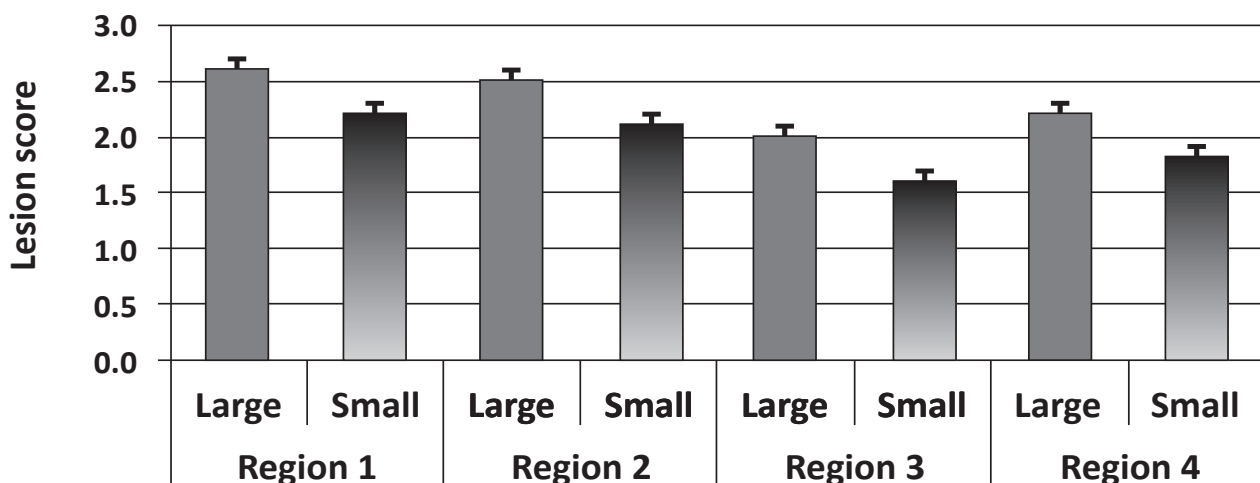

Figure 5.3: Lesion Score by Region. Region-1 Head and Jowl, Region-2 Shoulder, Region-3 Side & Loin, Region-4 Ham (Gesing et al., 2012)
- Figures 5.3, 5.4 and 5.5 below, show results from Iowa State University, Gesing et al., and Bates, comparing the performance of large pens (>200 pigs/pen) vs. small pens (32 pigs/pen) performance.